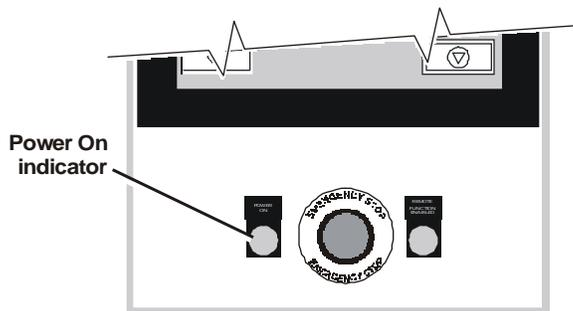

Figure 31. Power On indicator light
- 2 Verify that the Power On indicator on the control panel (Figure 31) is lighted, indicating that electric power is on.